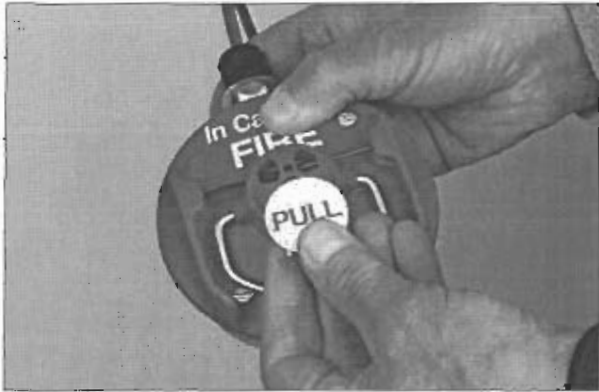

FIGURE 79
- 9. Snap the pull tab onto the pull knob so it is legible. See Figure 79.